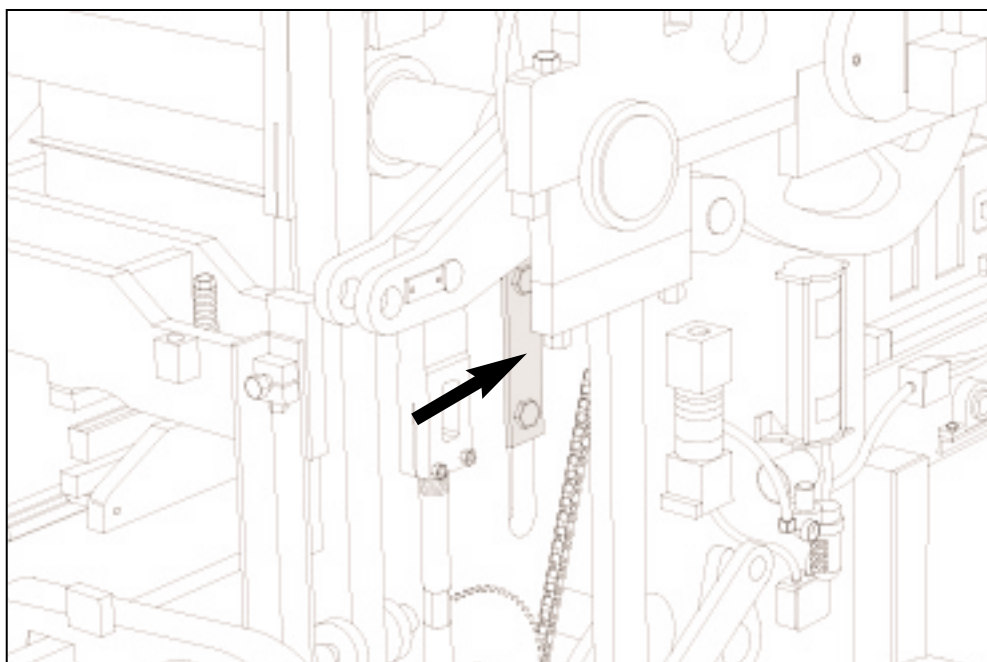

Figure 18.41 LOOSEN "T" CLAMPS ON BOTH SIDES.
- a. Loosen the "T" clamps on each side of machine that secure machine side plate to mold throat plate. (Figure 18.41)